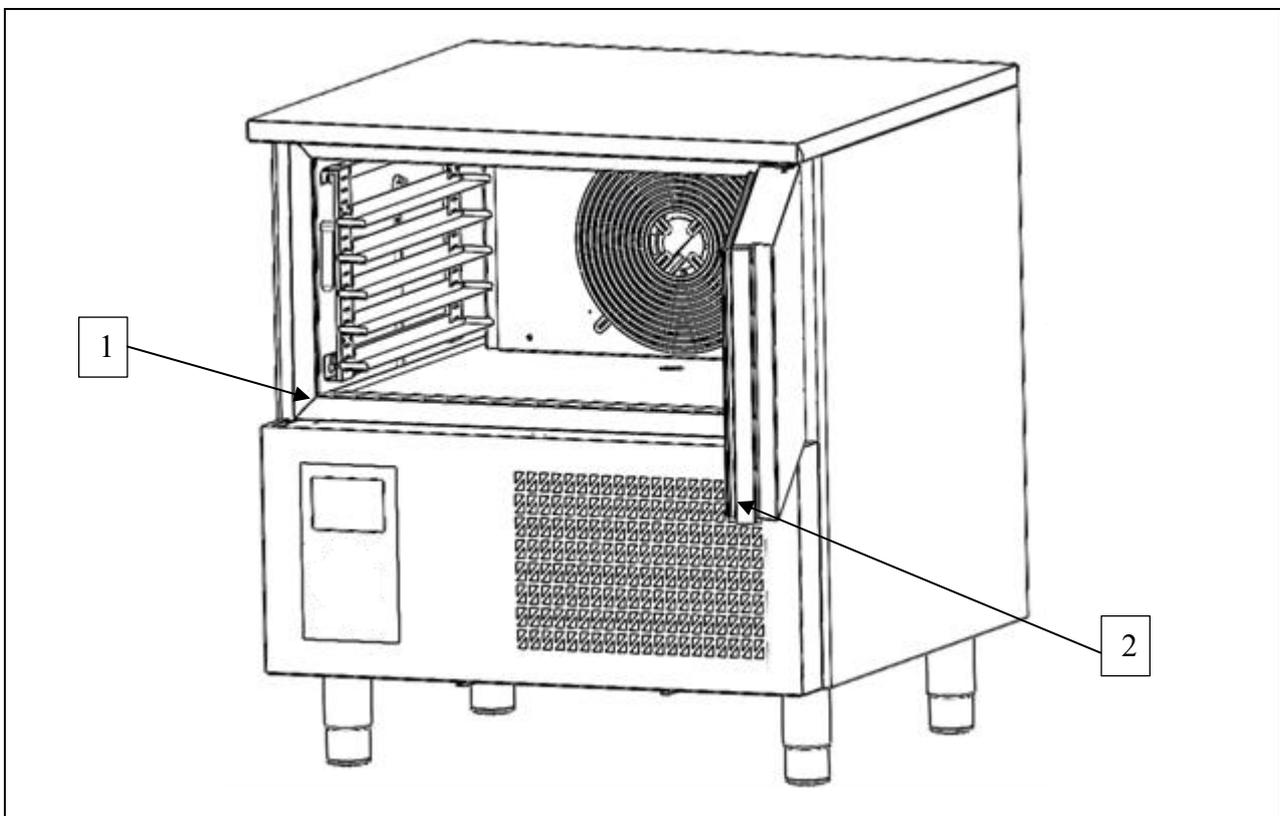

Fig. 8
Clean very carefully the internal part of the chamber, the door closure surface (ref. 1 fig. 8) and gasket (ref. 2 fig. 8), using a non-abrasive sponge soaked in neutral detergent. Rinse with a sponge soaked in water and dry with a clean cloth. Proper cleaning of the inside of the appliance prevents the formation of bad odour which could affect the end product negatively.